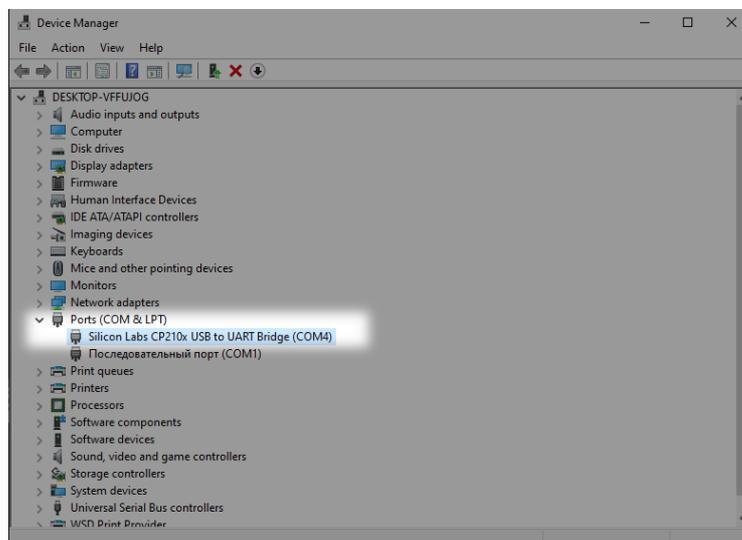

Figure 22 Device Manager
6. Fill in all local server settings fields (see Figure 22).